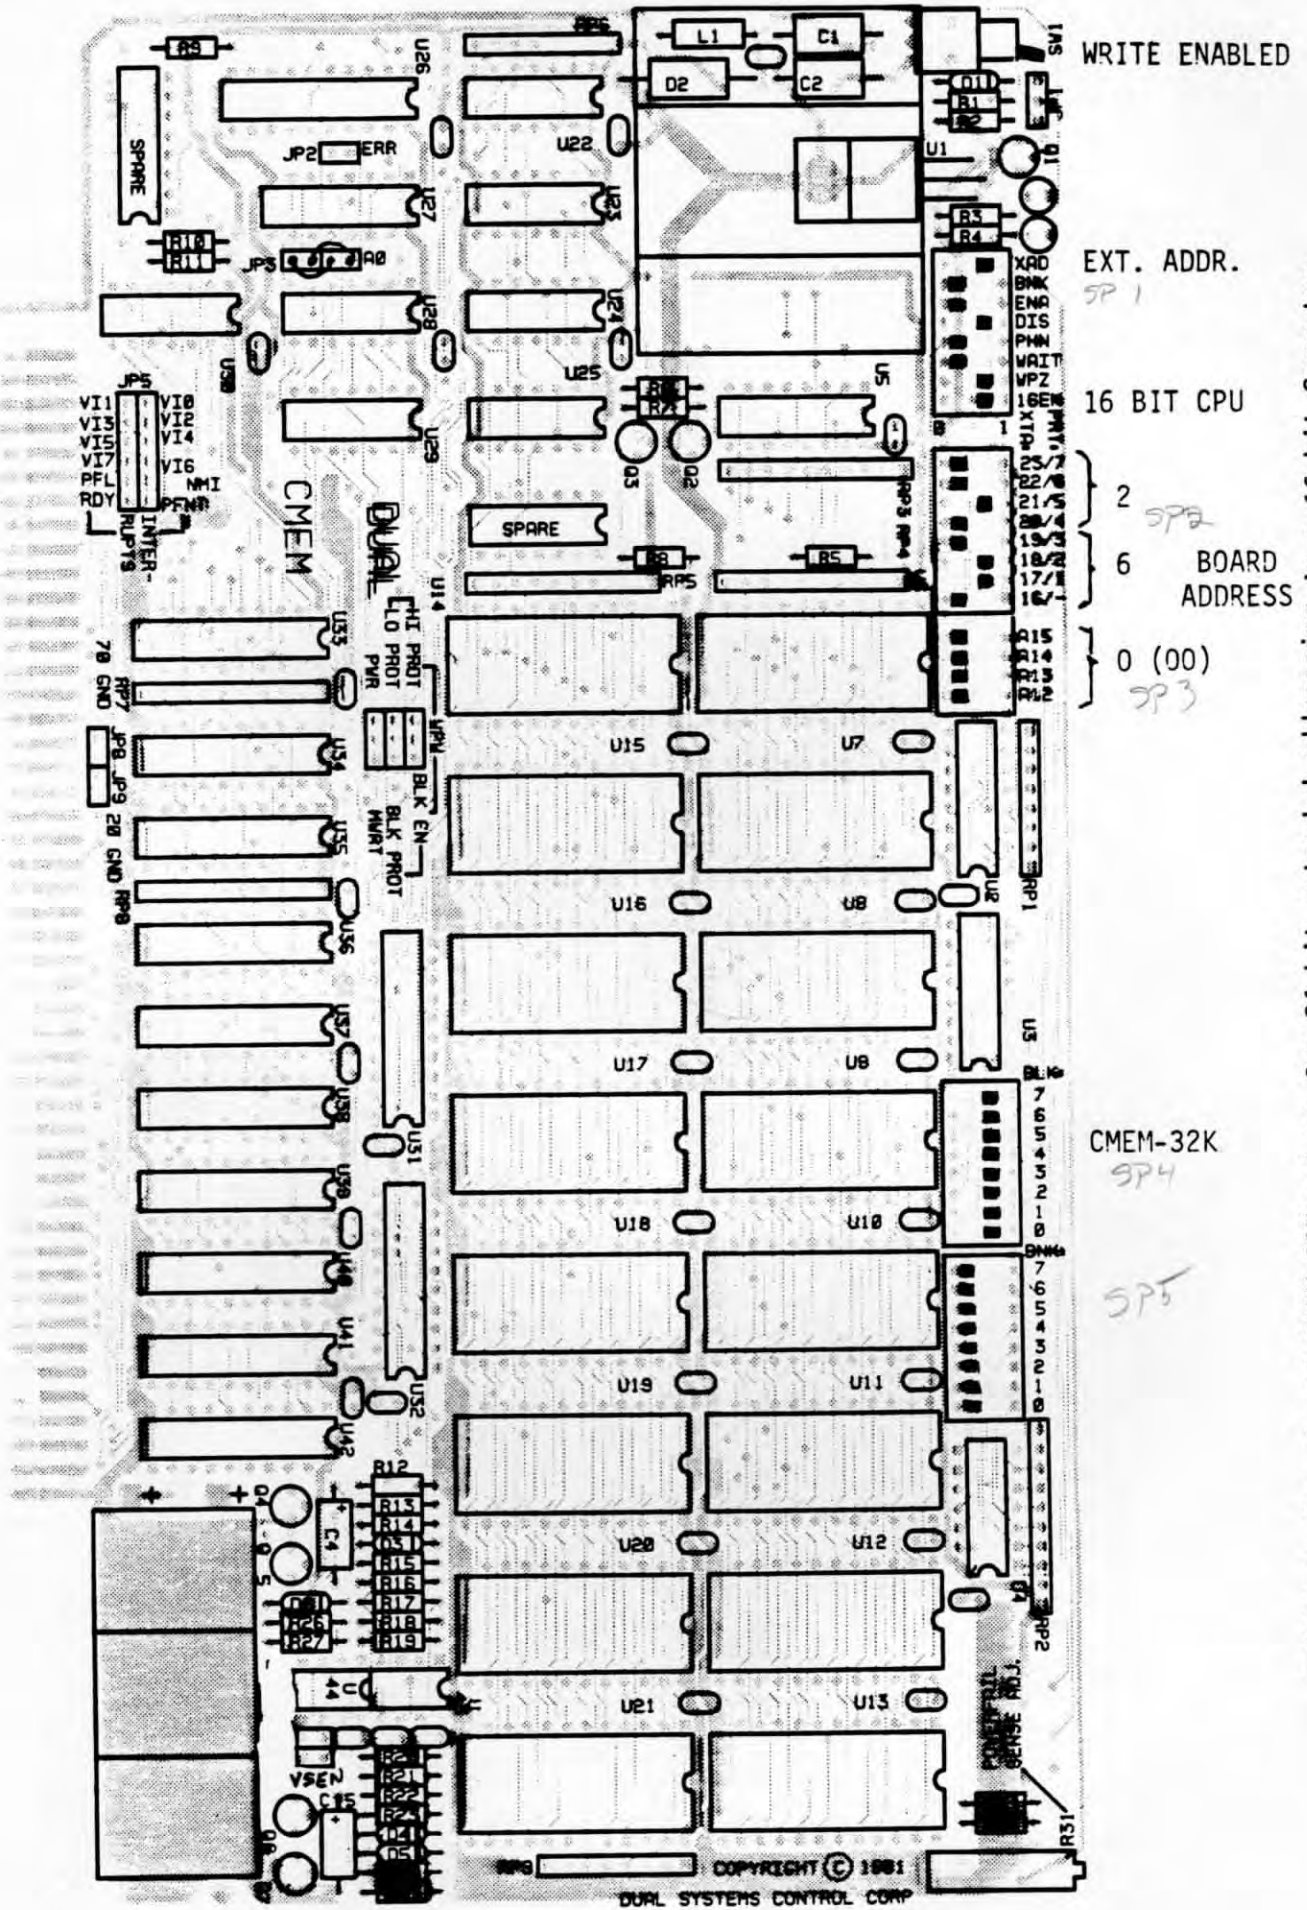

FIGURE 3. Example of CMEM-32K set up for 24-bit extended addressing in a 16-bit Computer
2. An example using the new 24-BIT EXTENDED ADDRESSING scheme found in new systems which make use of the features specified in the IEEE proposed S-100 standard. SEE FIGURE 3.
then switch SP2 should be set to 26 (Hex.), which is 00100110 in binary. Also, A12 through A15 should be set to 0000 (binary) for this example, using switch SP3 positions 1 through 4. THE SWITCH SETTINGS FOR THIS EXACT EXAMPLE ARE ILLUSTRATED IN FIGURE 3. THIS FIGURE DEPICTS THE FOLLOWING HYPOTHETICAL CONFIGURATION OF A CMEM-32K SET UP FOR EXTENDED ADDRESSING: